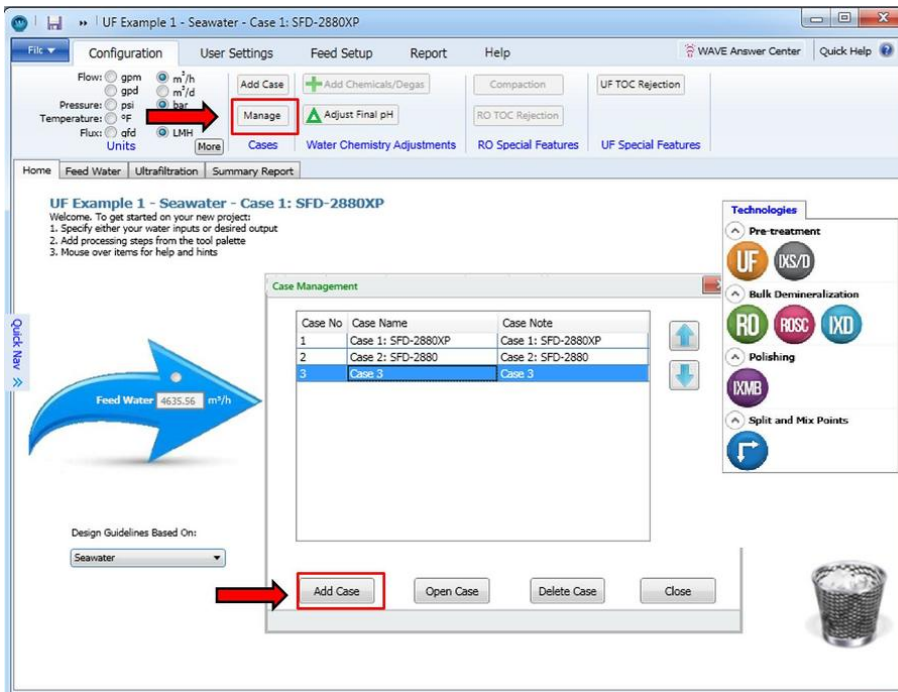

Figure 192. Creating a new case using the Case Manger Add Case button
2. Select the case of interest and click on “Add” in the Case Manager window (Figure 192).